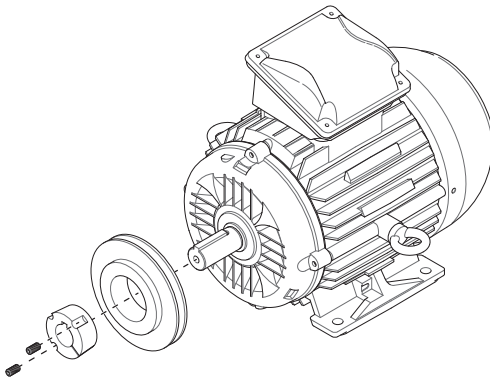

Fig. 39: Removing the belt pulley from the motor shaft (BD)
2. Conduct measurement according to figure 39.